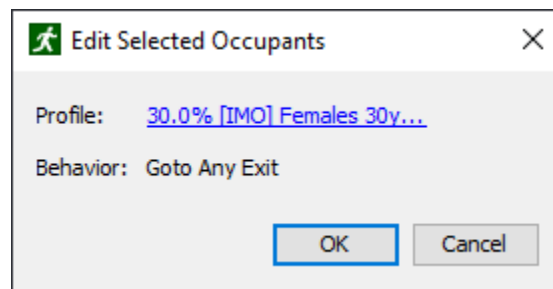

Figure 124. Edit Selected Occupants dialog
1. Select occupants, right-click one of the selected occupants either in the Navigation view or Model view, and then select **Properties** from the right-click menu. To edit a single occupant or group, double-click the occupant or group in the Navigation view. The Edit Selected Occupants dialog will appear as shown in Figure 124.